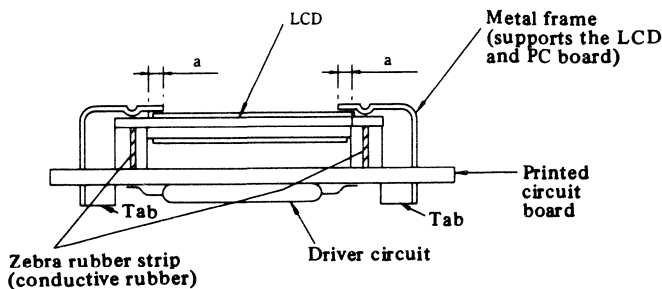

Fig. 2 Cross section of a liquid crystal module
- (1) A cross section of the LCM construction is illustrated in Fig. 2. The gaps at either end through which the electroluminescent panel is inserted are made of conductive rubber (interconnectors).
The distance between the window frame of the front panel and the conductive rubber (dimension a in Fig. 2) varies with each liquid crystal module, but an average is about 2.0 mm.